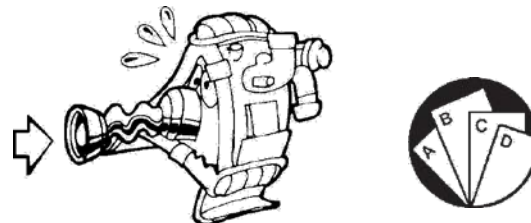

FIG. 6
- b) Check that the button or ring nut "E" (FIG. 6) is correctly engaged and blocked both on the pump side and on the tractor side.